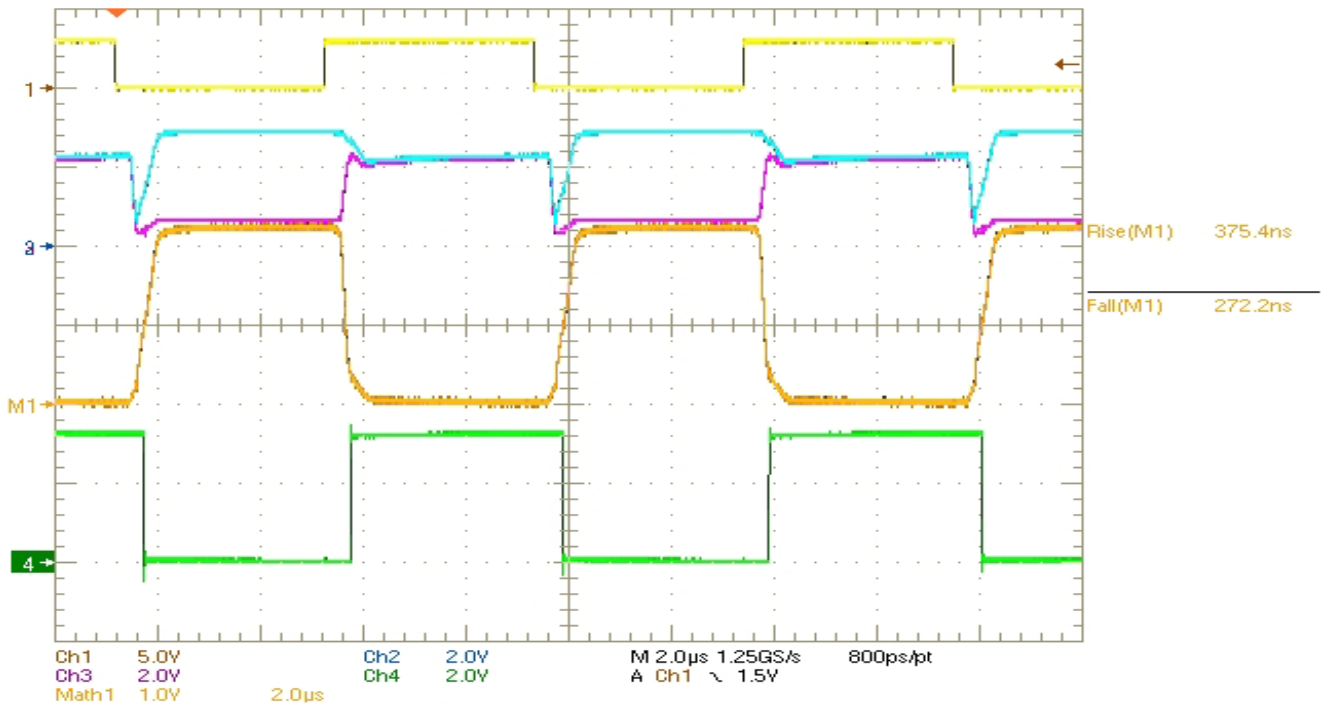

FIGURE 4. OSCILLOSCOPE PLOT (MEDIUM SPEED) WAVEFORMS AND MEASUREMENTS
10. The scope plot should look like the ones in Figure 4 on page 6.